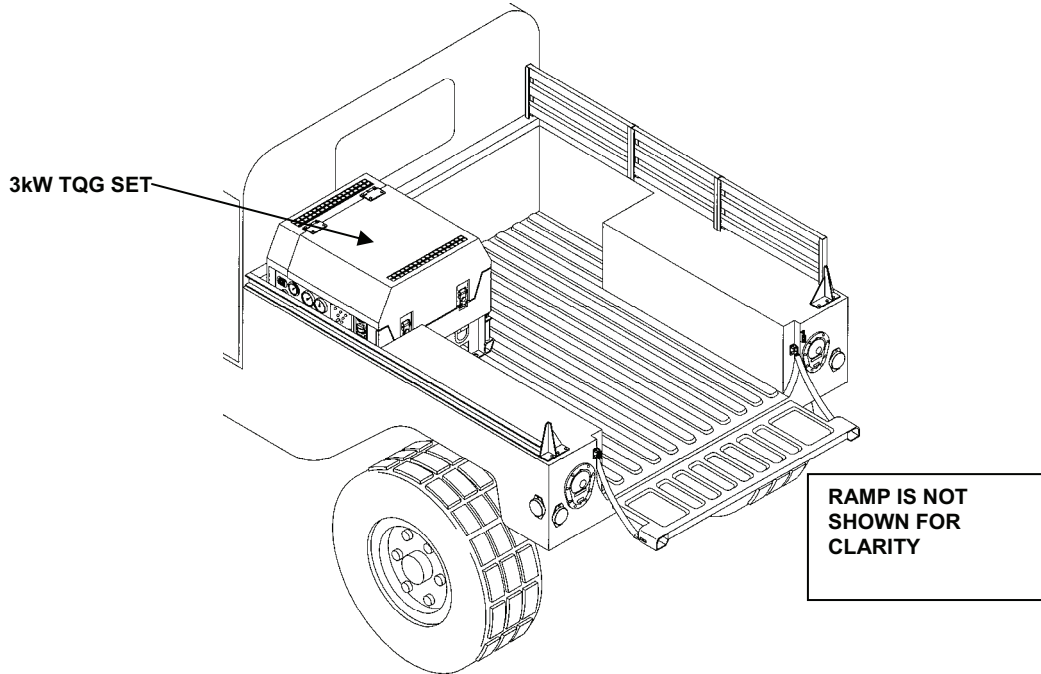

Figure 15. Offloading 3kW Tactical Quiet Generator Set.
Determine the placement site and offload the 3kW TQG set. See Figure 15.
3. Slide the 3kW TQG set toward the rear of the cargo compartment (near tailgate). Ensure the fuel tank is toward the rear of the vehicle. See Figure 15.